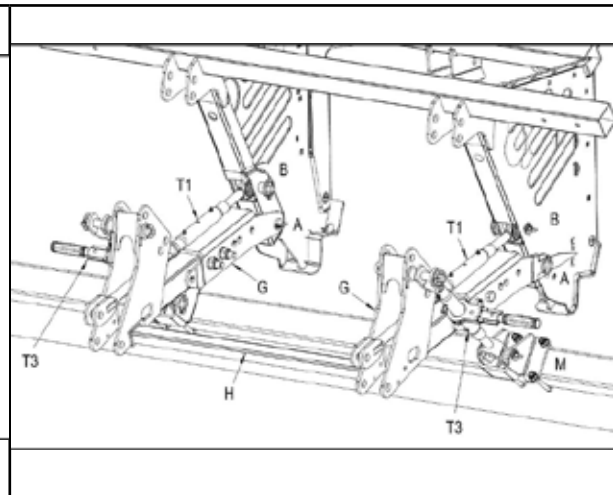

Fig. 14 Installation "auto-level" configuration
3. Assemble the arms **G** just assembled in the holes **A** of the seed-drill (figure 14)
4. Fix the tie rods **T1** in the holes **B** of the seed-drill (figure 14) , paying attention to position **C** (figure 14 and 15) of the upper hole according to the machine configuration
6. Combine the two telescopic arms through the frame **H** (figure 14))